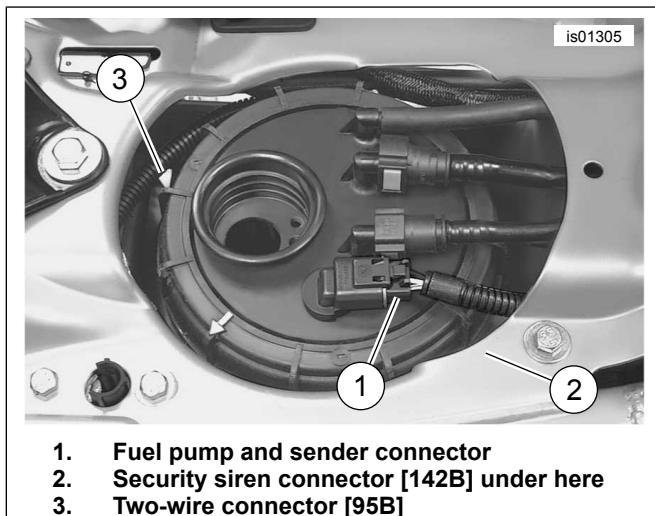

Figure 3. Locate Connector [142B] (All 2002-2006 VRSC Models) (Shown with Fuel Cap and Filler Boot Removed)
See Figure 3. The security siren connector is a three-wire connector, not to be confused with the two-wire connector (3) tied to the harness (except on California models).
5. See Figure 3. Locate the security siren connector (2) at the end of the harness lead that wraps around the top of the fuel tank. Disconnect the fuel pump and sender connector (1) to free the security siren connector. The protective cap and cable strap on the security siren connector can be discarded.
3. See Figure 3. Locate the security siren connector (2), at the end of the harness lead that wraps around the top of the fuel tank. Disconnect the fuel pump and sender connector (1) to free the security siren connector. The protective cap and cable strap on the security siren connector can be discarded.